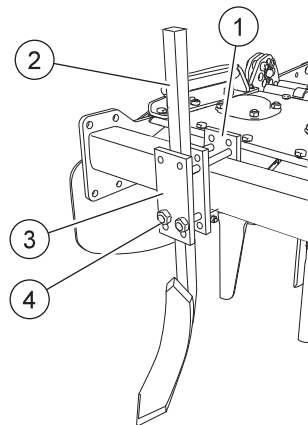

FIG. 14
Fit the track eradicator support (1, "Fig. 14") onto the front bar. Insert track eradicator (2) between the plates (3). Adjust height from the ground. Tighten nuts (4).